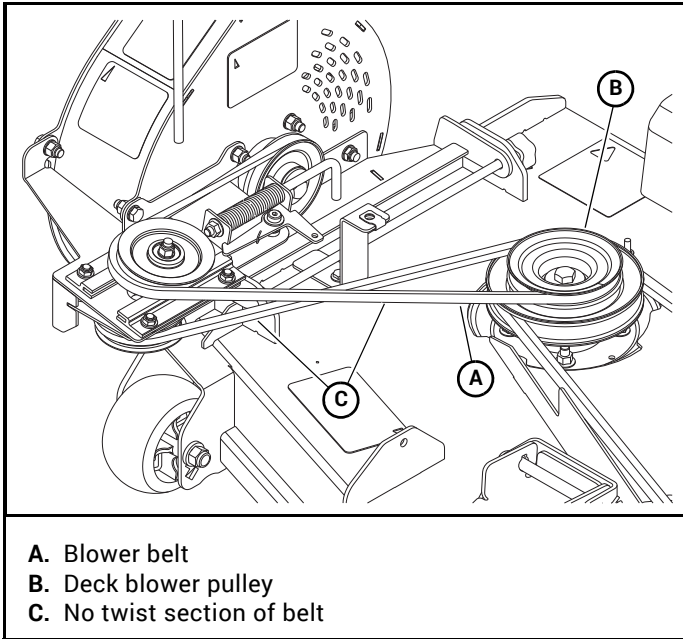

Figure 3-26
34. Install and route the blower belt around the deck blower pulley as shown. Use belt part number 608217 for 48" decks, 608218 for 54" decks, and 607963 for 60" decks. **NOTE:** Make sure the two longest sections of belt are not twisted. Figure 3-26